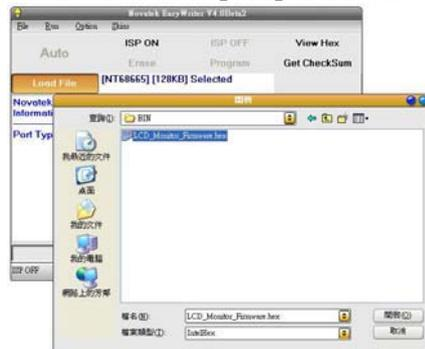

Fig.9
5. Press Load File to select the LCD_Monitor_Firmware.hex as shown in Fig.9.